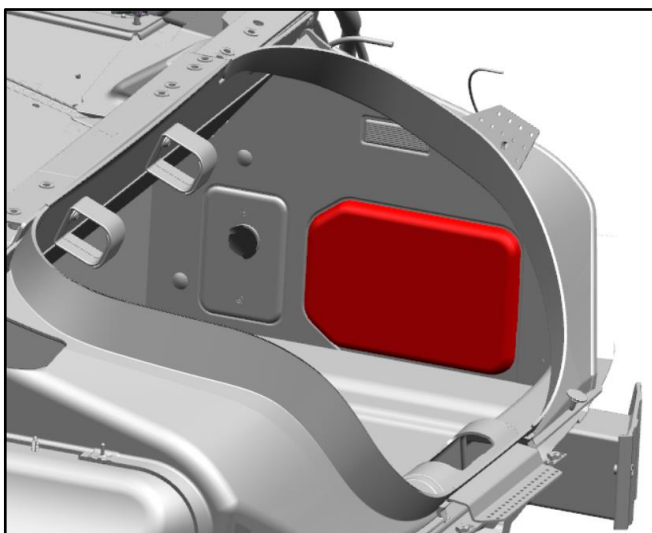

Figure 2
4. Remove the cover for the rear fuse box. (Refer to Figure 2.)